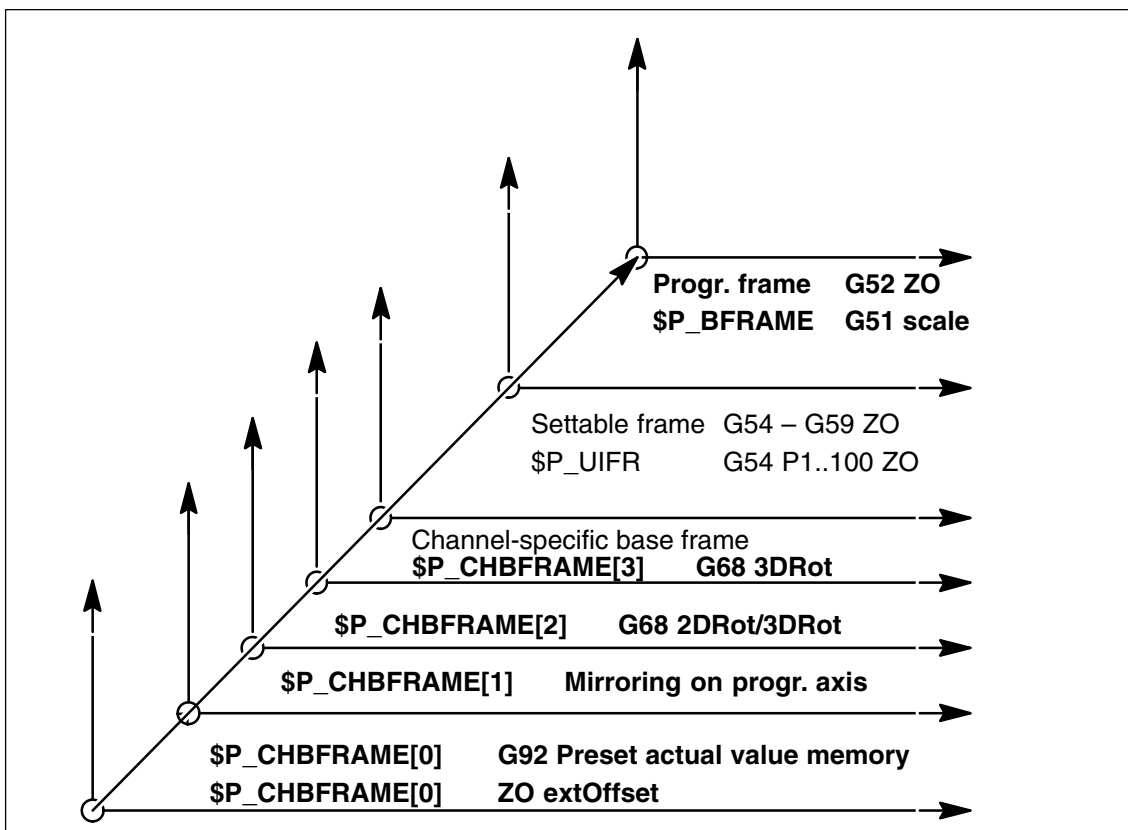

Fig. 2-1 Instantaneous mapping of the ISO functions onto the Siemens frames
The zero offsets (ZO) of Siemens mode are shown in Fig. 2-1.